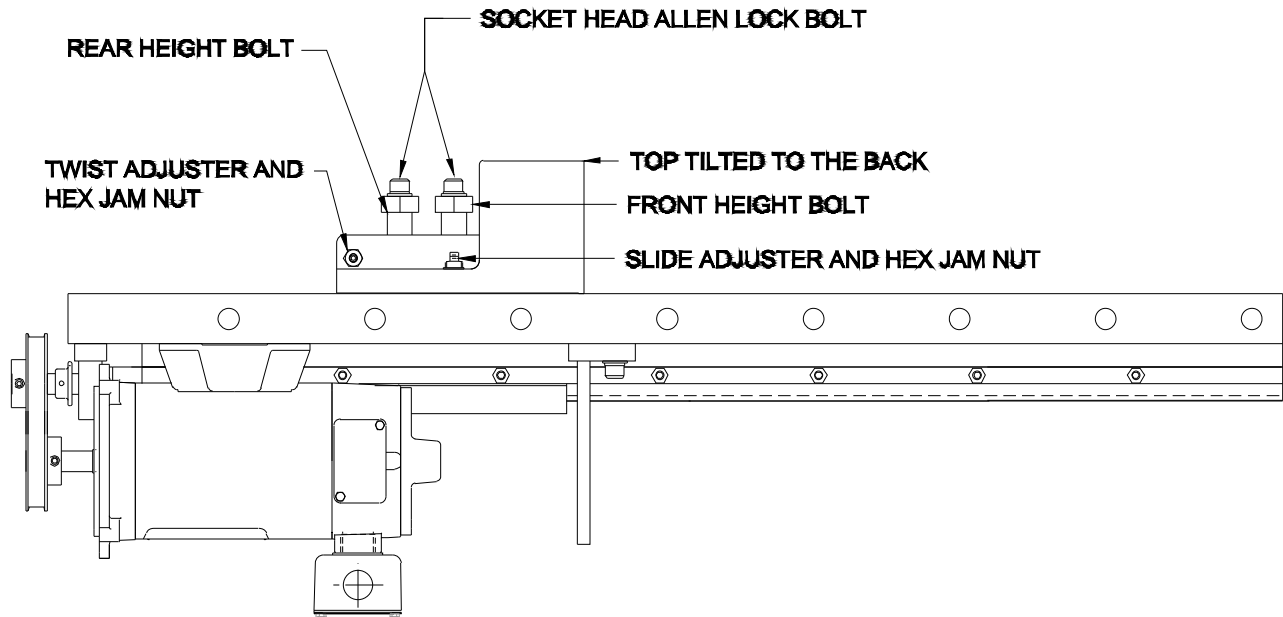

Fig 28
7. Loosen the rear socket head Allen bolt with a 5/16" Allen wrench, Fig. 28, indicated with an arrow.
8. Loosen the two (2) 5/16" hex jam nuts on the adjustor screws with a 1/2" wrench.
4. Loosen the two (2) socket head Allen lock bolts with a 5/16" Allen wrench. Fig. 28.
5. Loosen the hex jam nut on the backgauge squaring adjustor with a 1/2" wrench and loosen the adjustor with a 5/32" wrench. Do this only on one (1) side)